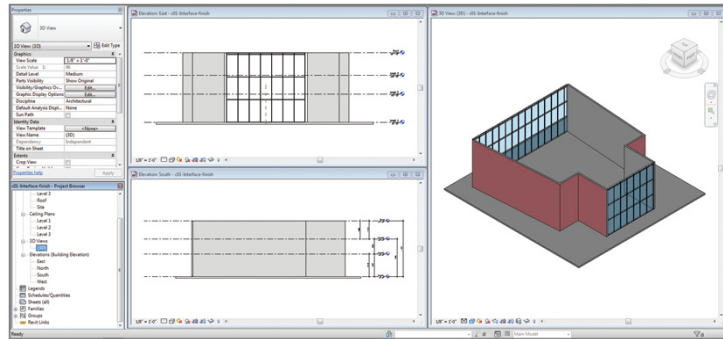

FIGURE 1.21 Wall segments have been changed to a different type.
8. At the top of the Properties palette is the Type Selector. Click it to open the list of available wall types in the project. Scroll down to the bottom of the list, and select the type Curtain Wall: Exterior Glazing. You may get a warning when you make this change; if so, just select Unjoin Walls or whatever the recommended action is. Your result should look like Figure 1.21.